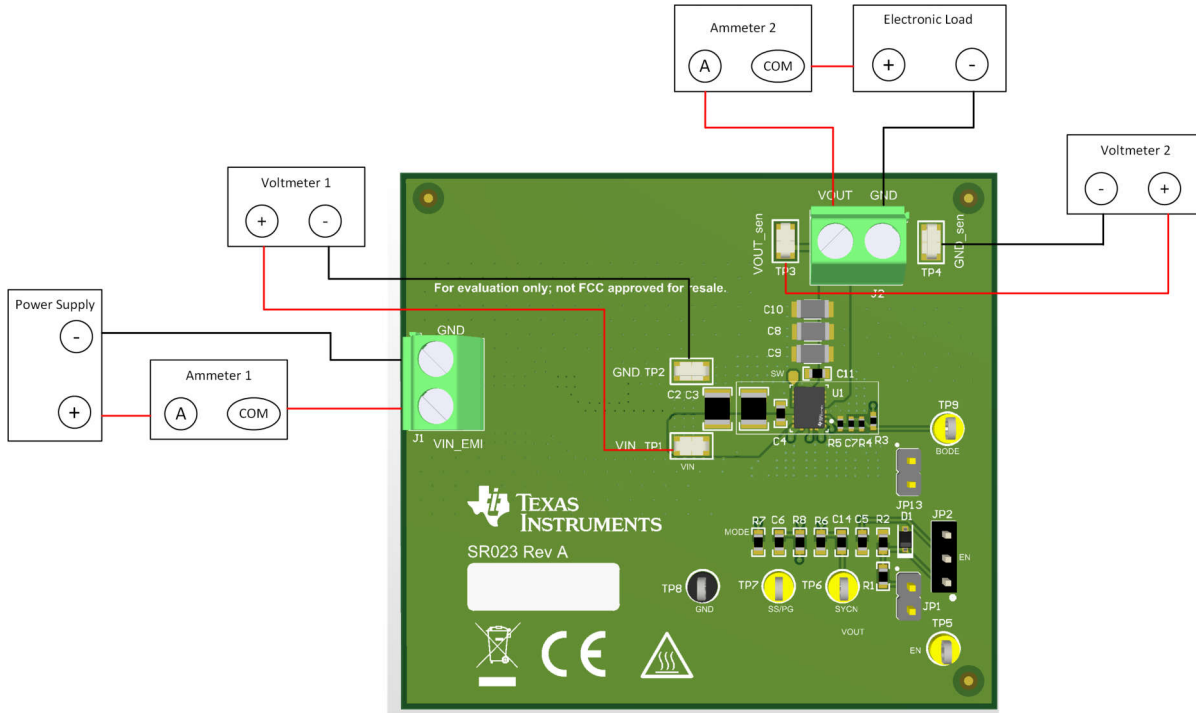

Figure 2-1. EVM Test Setup
Referencing the EVM connections described in Table 2-1, the recommended test setup to evaluate the TPSM843388 is shown in Figure 2-1. Working at an ESD-protected workstation, make sure that any wrist straps, boot straps, or mats are connected and referencing the user to earth ground before handling the EVM.
1. Prior to connecting the DC input source, set the current limit of the input supply to 0.1A maximum. Make sure the input source is initially set to 0V and connected to the VIN\_EMI and GND of J1 as shown in Figure 2-1.